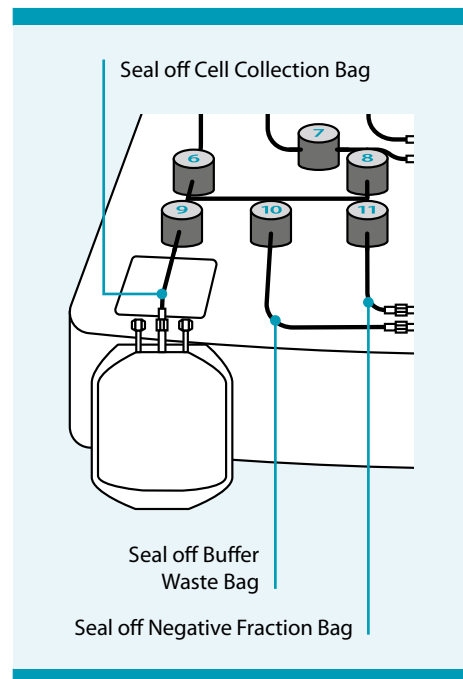

Figure 7.26: Disconnect bags
2. Clamp or seal the tubing above the luer lock connecting the Cell Collection Bag to the tubing set (see Figure 7.26).